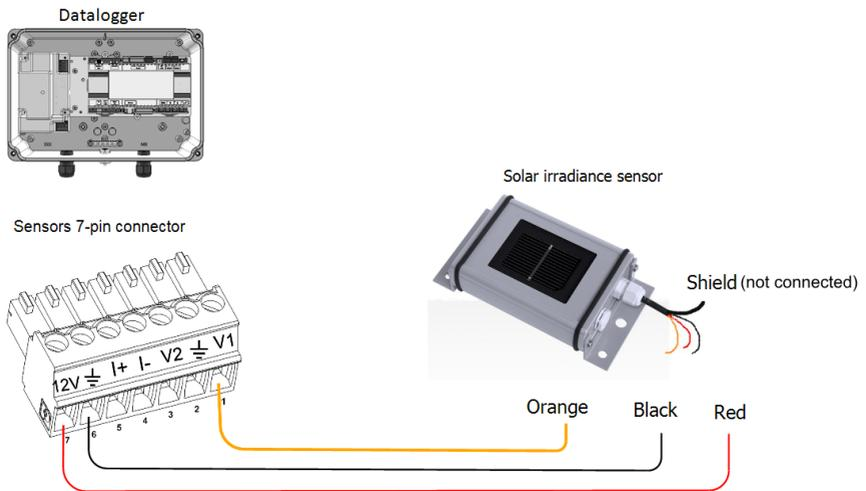

Figure 24: Solar irradiance sensor connection
- Connect the thin wires to the Data Logger sensors connector as follows (see Figure 24):